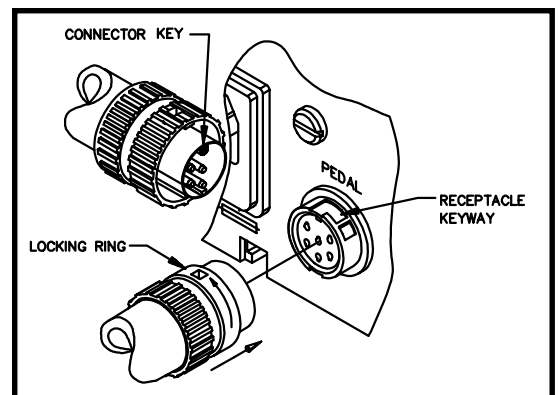

Figure 4. Foot Pedal Connection
11. If you have purchased the optional foot pedal, insert the foot pedal connector plug into the Foot Pedal Receptacle on the rear panel of the power source. (See figure 4)